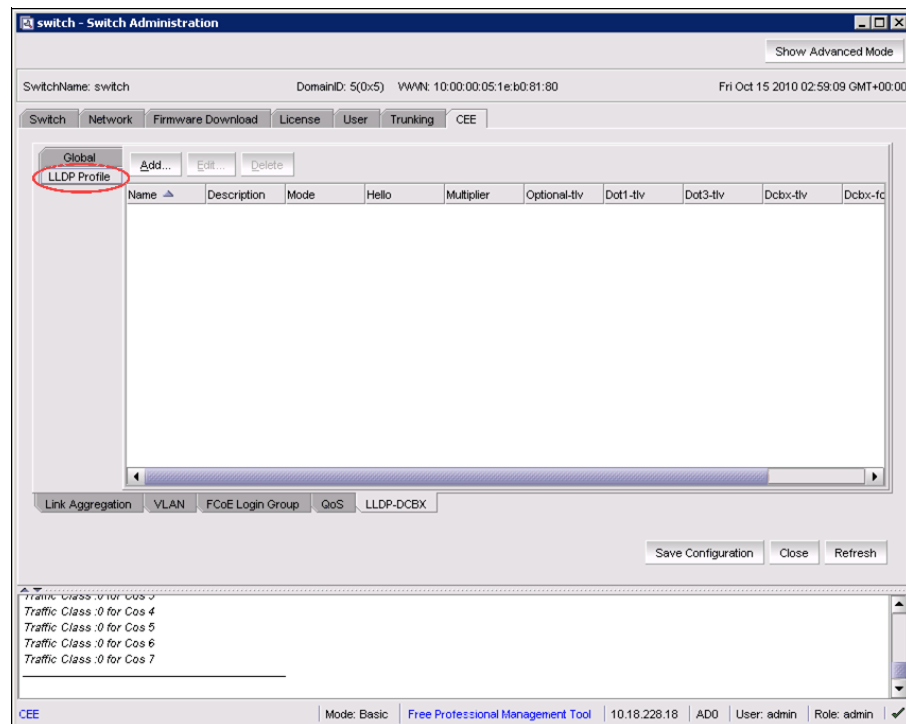

Figure 5-15 CEE tab → LLDP-DCBX tab → LLDP Profile tab
1. From the Switch Administration panel make the following tab selections: **CEE** → **LLDP-DCBX** → **LLDP Profile** (Figure 5-15).